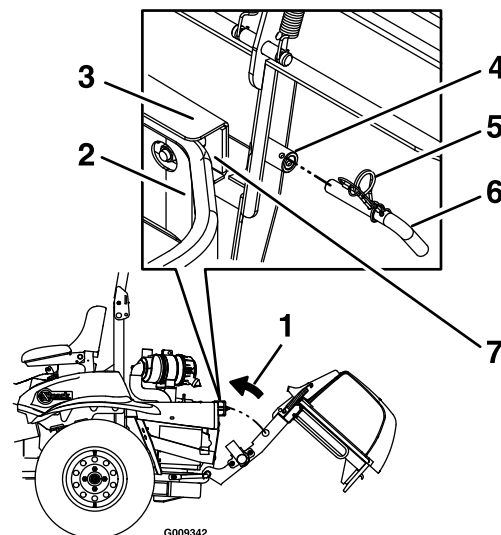

Figure 10
6. Lift the hopper assembly and pivot it upward towards the back of the unit (see Figure 10).
10. Install the mount pin into the frame mount barrel. Make sure that it extends into the opening between the rear bumper and the mount bracket (see Figure 10).